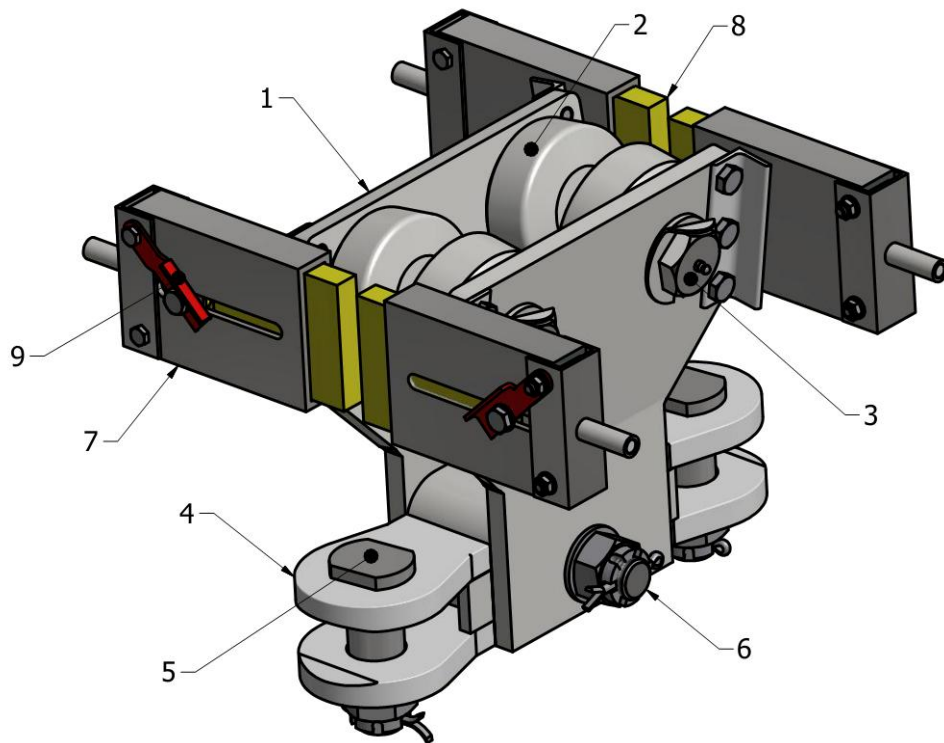

Fig. 1
- body (fig. 1 - Item.1),
- running wheels (Fig. 1 - Item 2),
- screws fixing the running wheels (Fig. 1 - Item 3),
- the coupling (fig.1 - Item. 4),
- vertical pin $\varnothing 40$ (fig.1 - Item. 5),
- horizontal pin $\varnothing 30$ (fig.1 - item 6),
- Scraper cartridge housings (Fig. 1 - Item 7),
- cleaning of the scraper cartridges (optional, fig. 1 - item 8),
- blocking of the ejection of the scraper insert (Fig. 1 - Item 9),